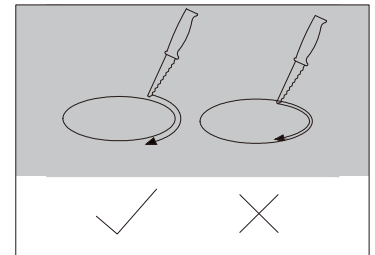

FIG. 2
1. Use the hole size template in the packaging to cut a hole on the ceiling for installation. (Fig. 2)